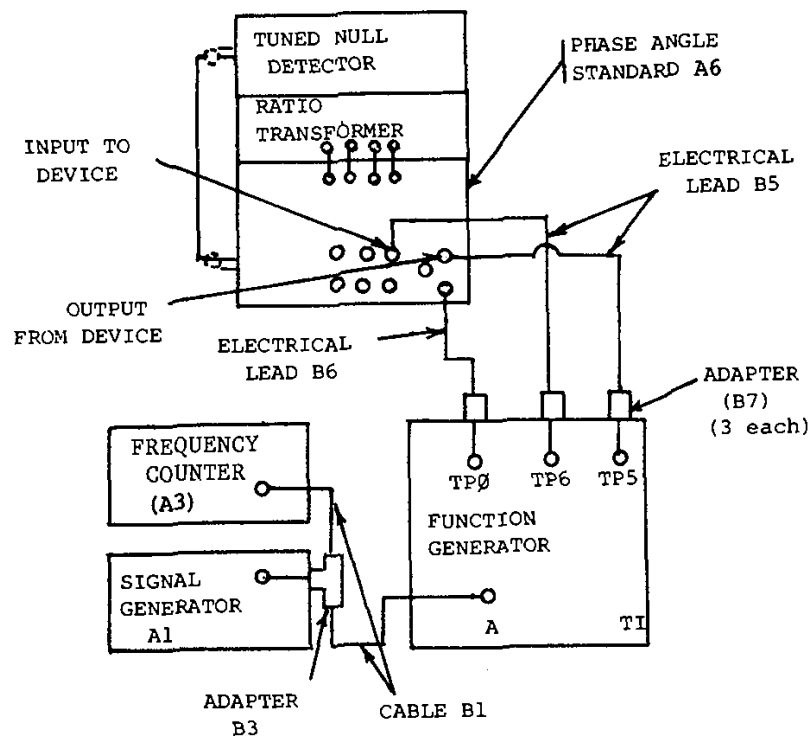

Figure A-3. Servo Signal Phase Setup
- (19) Connect equipment as shown in figure A-3.
- (20) Connect differential voltmeter (A2) to TI A101 TP-0 (LO/Black) and A101 TP-5 (Hi).
- (21) Set TI TEST SELECTOR to SERVO. Adjust signal generator (A1) controls for an differential voltmeter indication between 0.95 and 1.05 V rms and a frequency counter indication between 28.29 and 28.86 milliseconds.
- (22) Measure the phase difference between the signals at TI J9 pin B and J9 pin A. If indicated phase difference is not between 139.0 and 141.0 degrees, perform b below.